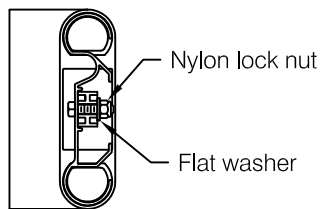

fig 5
Step 7: Attach molded returns, outside corners and inside corners to retainer with accessory seated firmly and squarely while tightening. Fasten with ¼" bolt, flat washer and nylon lock-nut provided. *Caution:* Do not use a lock washer, use flat washer only. Always place a flat washer between nut and molded tab. Tighten to 10 ft-lbs maximum torque, see **fig 5**.